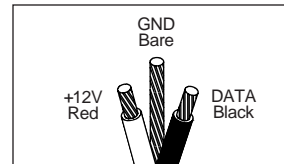

Figure 2
2. Run the cable to the MS360. Label the cable for future reference. See (Figure 2).